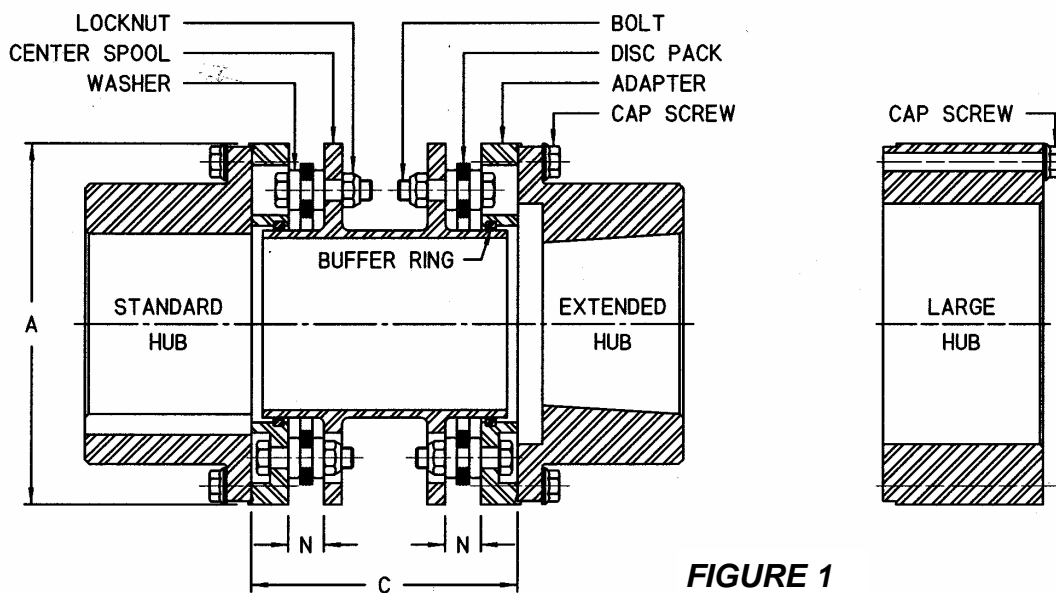

FIGURE 1
As a guide, maximum and minimum values for dimension "N" are given. These dimensions are suggested for initial installation. Additional capacity is available to compensate for thermal and structural movement. Maximum axial capacity values for these couplings are also given. See Table 1 and Figure 1.
- B. Remove all locknuts, bolts, washers, and disc packs. Special wrenches may be required. Clean up the two adapters and the center spool, removing any nicks or burrs (See Figure 1). Replace buffer ring if needed. Install the new disc pack to the adapter first.